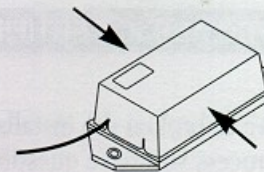

Figure 2-3
Step 3 • **REMOVE** cover by squeezing sides. (Figure 2-3)